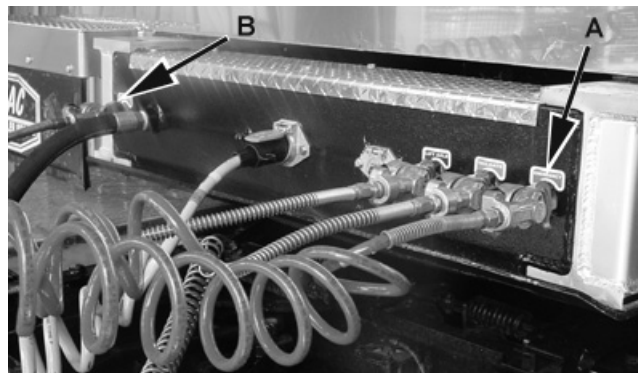

Figure 6-5 Disconnect Hoses And Electrical Connector
5. Disconnect the supply hose (A), service hose (B), hydraulic hose, electrical connector, and if equipped, disconnect hoses to the lift axle and tailgate glad hands. See figure 6-5.